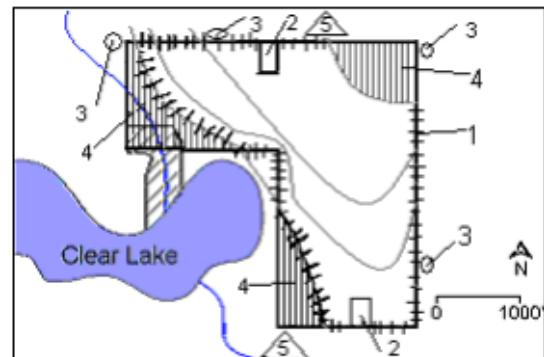

Figure 4-14
8. Description and location of all proposed temporary (Figure 4-14) and permanent SESC control measures.
(Key for Figure 4-14)
Another option is for the plan developer to create his or her own legend, such as the one depicted in Figure 4-14 above, using symbols or numbers to depict various control measures. If this option is used, the plan developer must also include details on how to install or maintain the specified SESC measures (Figure 4-17). If the the MDTMB or MDOT manuals are used, installation details are provided for each of the suggested control measures.